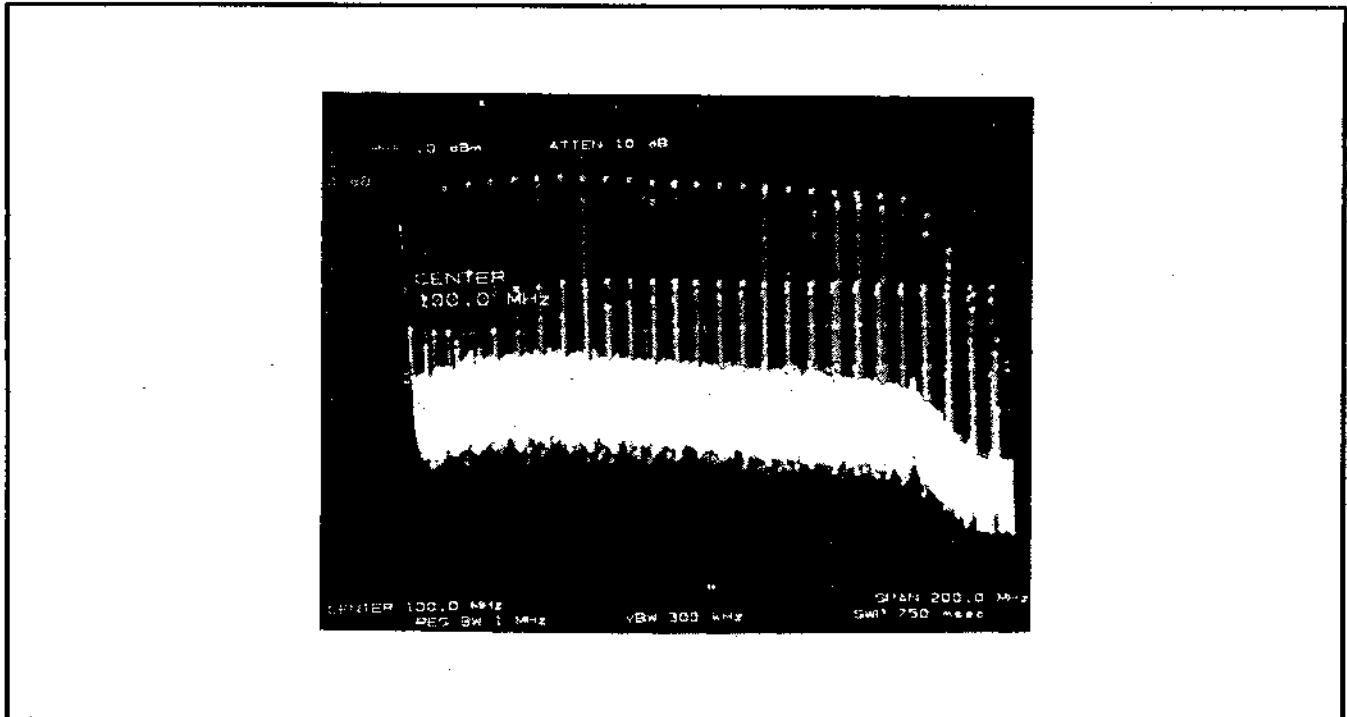

Figure 2
- Increase the sweep time of the spectrum analyzer to get an IF response similar to *Figure 2*. Note the amplitude of the flat portion of the band. This portion is usually located at about 60MHz - 100MHz.
- h. Adjust A25A1C19 so that the response signal at 175MHz is  $10(\pm 1)$ dB below the amplitude noted in e. See *Figure 2*.